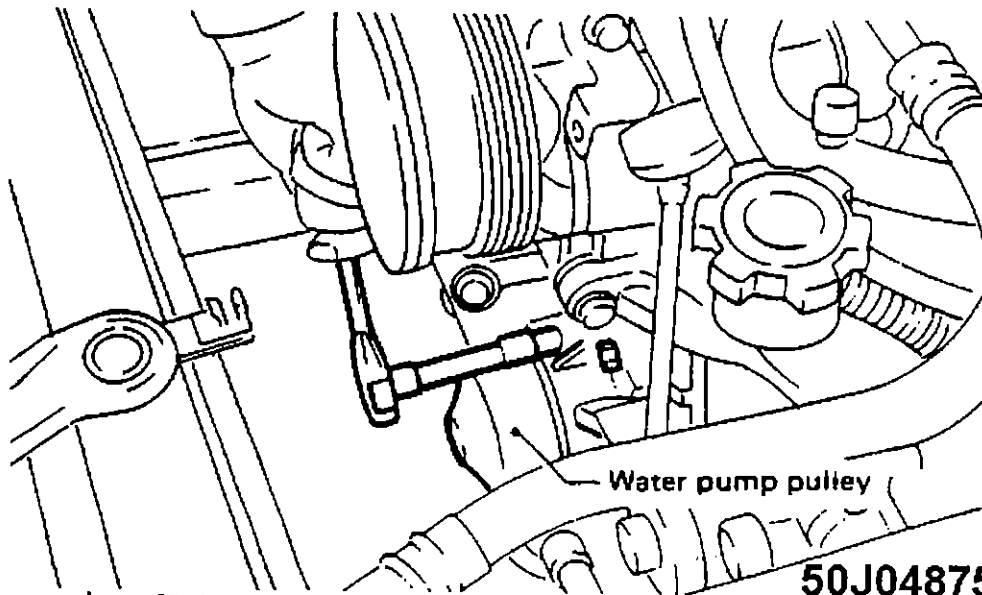

Fig. 15: Removing Water Pump
3) Remove belt tensioner bracket. Disconnect radiator hose and heater hose from water pump. Remove water pump attaching bolts and water pump. See Fig. 15.